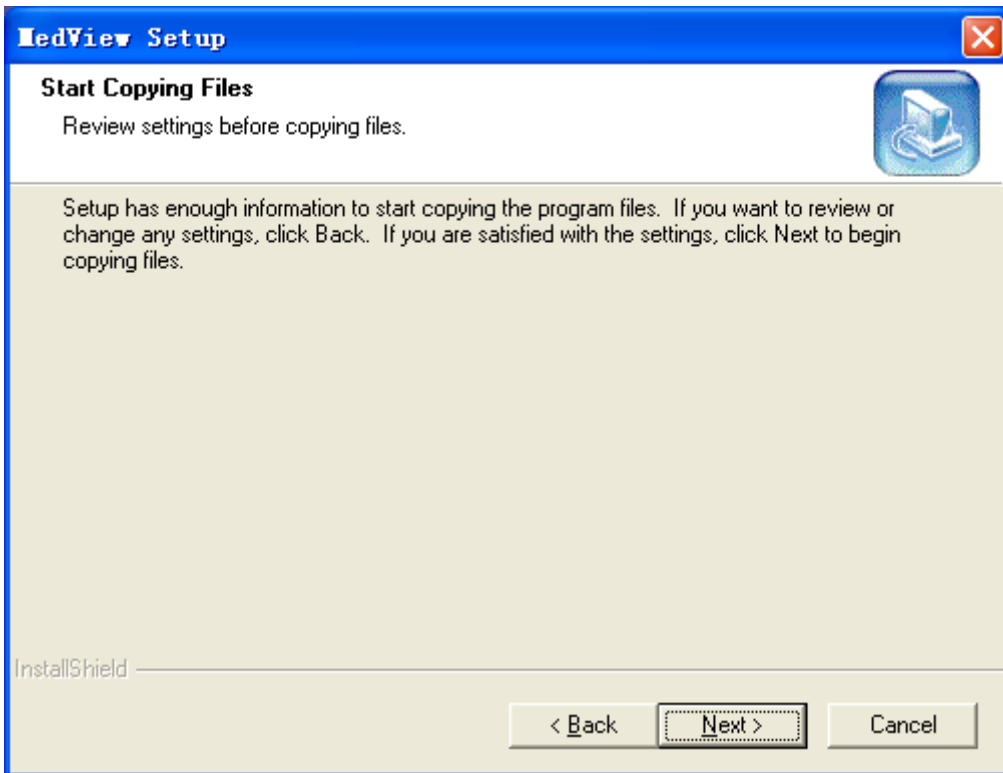

Figure 2-7
(7) Click “Next” in Figure 2-7, the following figure will appear. It indicates that the installation of MedView has been finished on your computer.